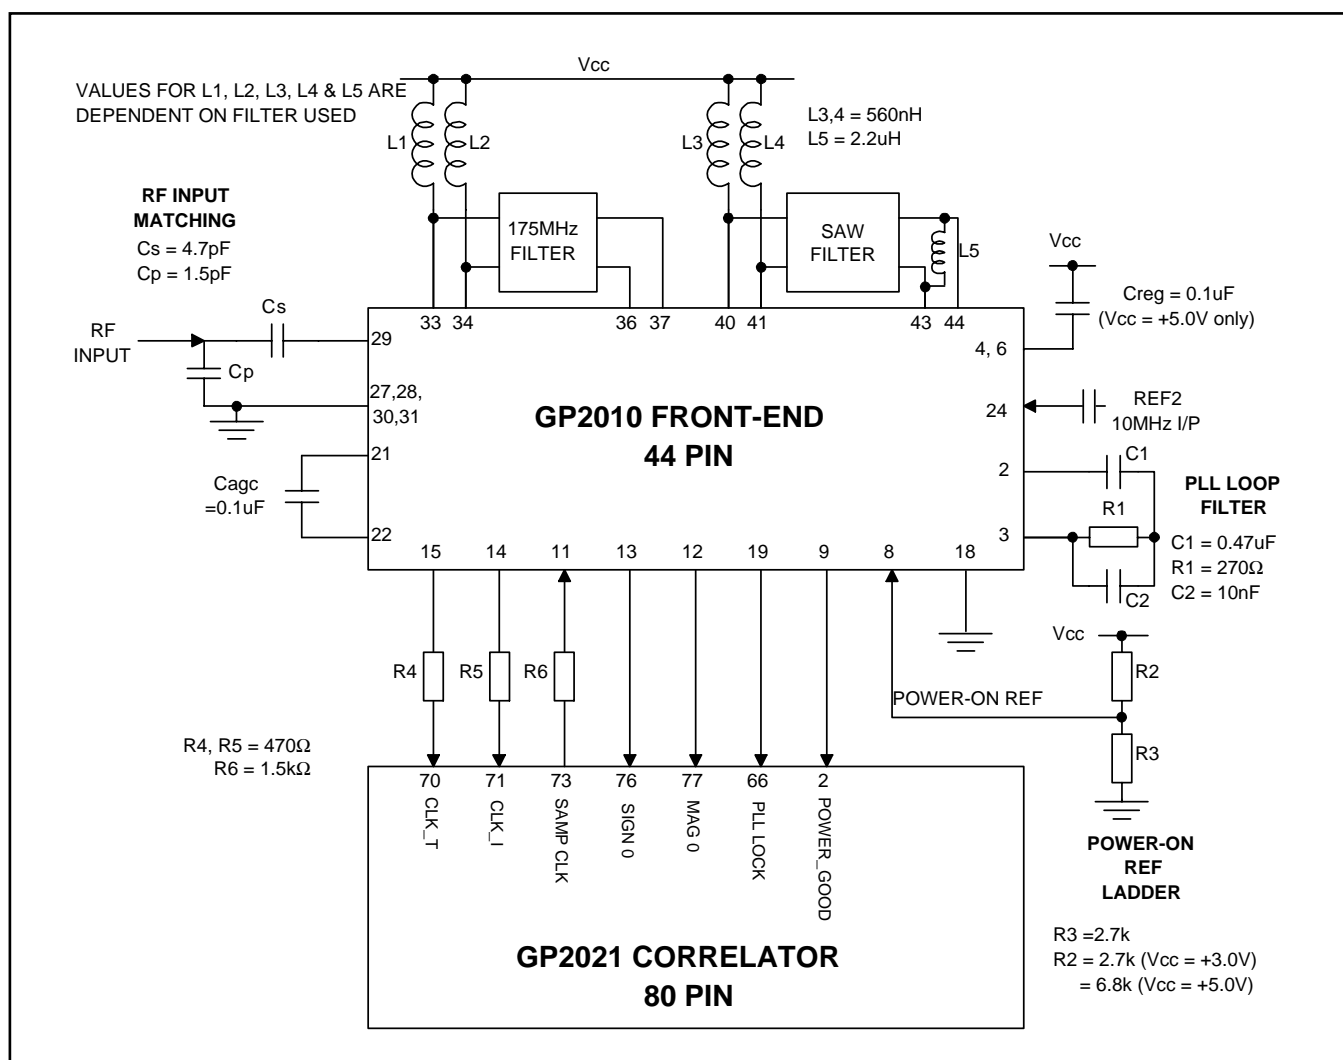

Fig. 4 GP2010 typical application
A typical application circuit is shown in figure 4 with the GP2010 front-end interfaced to the GP2021 12 channel correlator integrated circuit. The RF input has an unmatched input impedance (see page 4). The RF input matching components Cs and Cp should be mounted as close to the RF input as possible: also the Vee(RF) tracks must be kept as short as possible. A SAW may be used as a 175.42MHz filter, but this can be replaced by a simpler coupled-tuned LC filter if there is no critical out-of band jamming immunity requirement. The DC bias to mixer 1 is provided via inductors L1 and L2, which may form part of the 175.42MHz filter. The output of mixer 2 requires an external dc bias, achieved with inductors L3 and L4, which also serve to tune out the input capacitance of the 35.42MHz SAW filter. The output of the SAW is tuned with inductor L5. The AGC capacitor (Cagc) determines the AGC time-constant. The PLL loop filter components are selected to give a PLL loop bandwidth of approx. 10kHz. The IF Output is normally used for test-purposes only, but is available to the user if required. Typically a low noise preamplifier (gain >+15dB) is used, and may be located with a remote antenna.